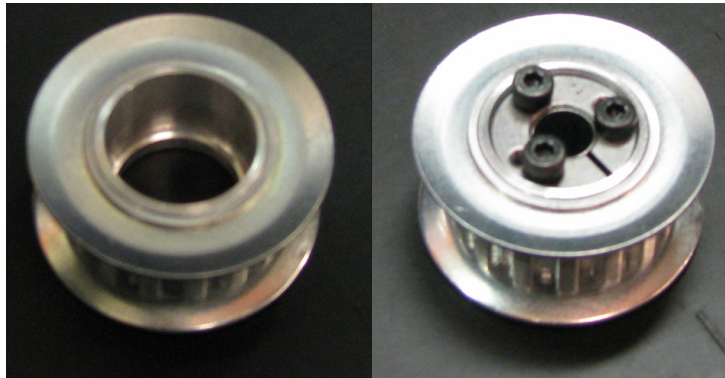

Figure 2.8:
- Slide the Tollok (350 d x D 6.35x16) in de pulley (16XL037) as shown in figure 2.8.